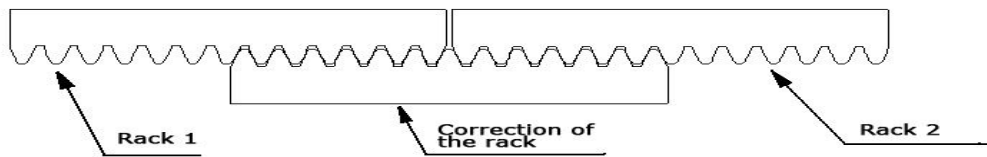

Fig 2
2. Rack is usually unit assembly, in order to avoid gate run jitter or jammed, rack and joint clearance must be corrected. Suggest use this way, see fig 2. With a small correction of the rack, after connecting right with racks 1 and racks 2, then fixed racks 1 and 2.